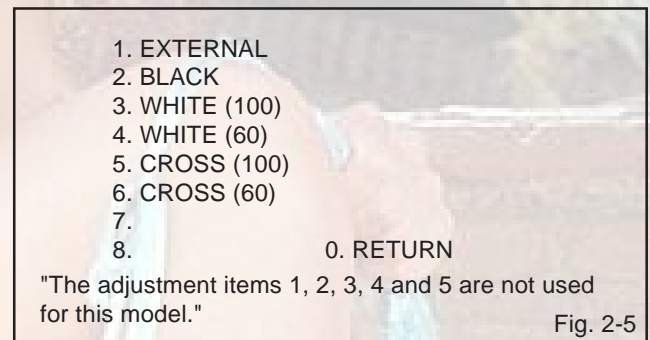

Fig. 2-5
1. Activate the adjustment mode display of **Fig. 1-1** and press the channel button **(6)** on the remote control. The **Fig. 2-5** appears on the display.